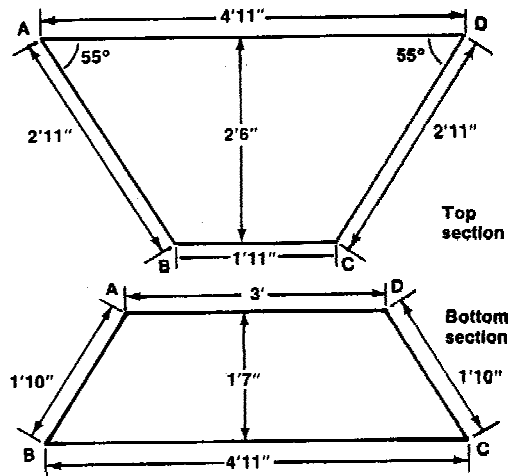

Figure 3. Insulation top and bottom sections.
2. Cut a third section of insulation to fit under the top of the drum as shown in Figure 3. Dimensions are: 4 ft. 11 in. x 2 ft. 11 in. x 1 ft. 11 in. x 2 ft. 11 in. Cut sides A-B and C-D on an angle as shown.
3. Cut a fourth section of insulation to fit under the base of the drum as shown in Figure 3. Dimensions are: 1 ft. 10 in. x 4 ft. 11 in. x 1 ft. 10 in. x 3 ft. Again, cut sides A-B and C-D on an angle as shown.